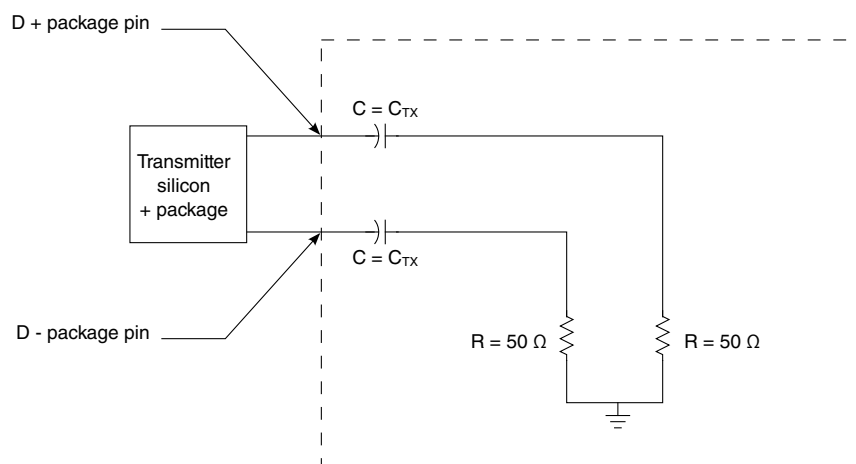

Figure 80. Test and measurement load
- Specified at the measurement point into a timing and voltage test load as shown in Figure 80 and measured over any 250 consecutive transmitter UIs.
- Specified at the measurement point and measured over any 250 consecutive UIs. The test load in Figure 80 must be used as the receiver device when taking measurements. If the clocks to the receiver and transmitter are not derived from the same reference clock, the transmitter UI recovered from 3500 consecutive UI must be used as a reference for the eye diagram.